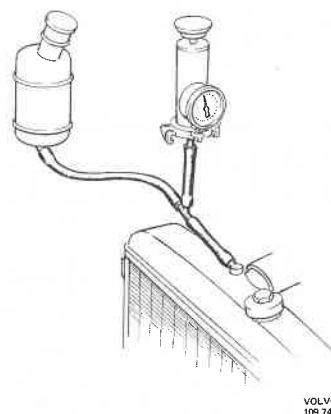

Fig. 26-6. Pressure-testing the cooling system
1. Connect a leakage tester to the cooling system between the hose from the expansion tank and the radiator, Fig. 26-6. Use a T-nipple and two hoses for connecting up. With this also check the valve for overpressure in the expansion tank cap. The valve should be pressed up from its seat and should open when the pressure in the cooling system exceeds 70 kPa ($0.7 \text{ kp/cm}^2 = 10 \text{ lbf/in}^2$)